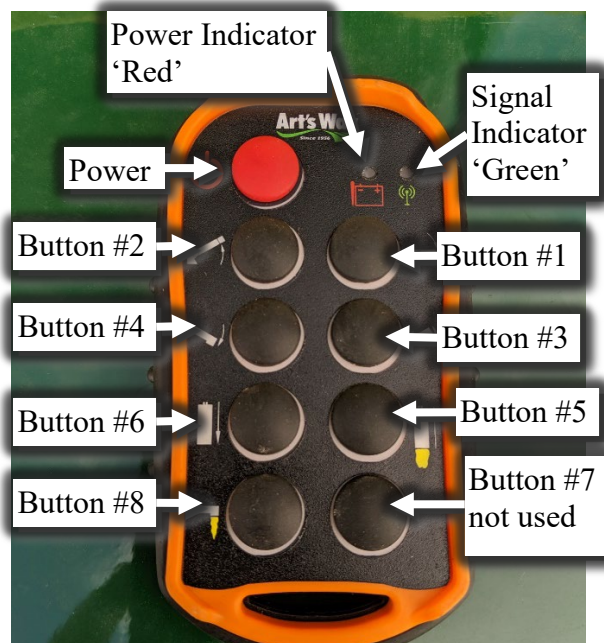
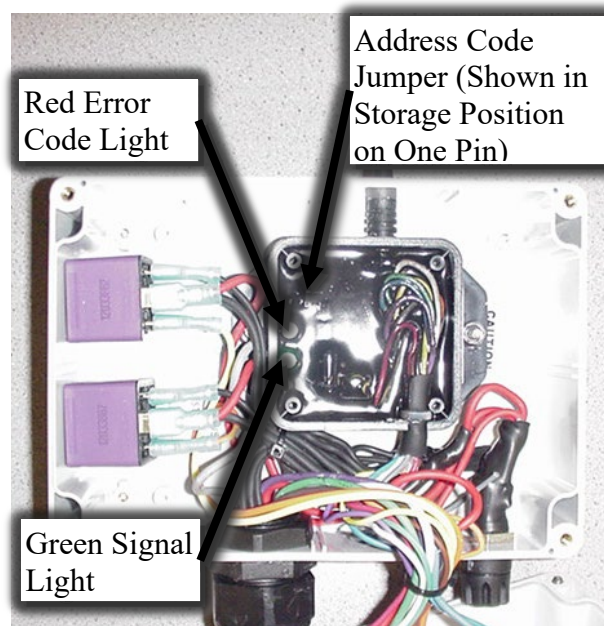

Figure 97 – Macro-Wireless Remote Control Device Button Programming (for Functions see Figure 100).
Figure 98 – Receiver in Complete Control Box with Covers Removed.
NOTE: *An internal rechargeable lithium ion battery supplies power for the Macro-Remote Control (Figure 97).*
The Remote Control (see Figure 97) is shipped with all button functions in momentary mode and already synchronized with the Receiver (see Figure 98).
To set Discharge Start/Stop button to latching mode the remote must be in configuration mode. Remove the cover from the Receiver so the LED's are clearly visible (see Figure 98).
2. Turn power on Remote Control (POWER button Figure 97).
3. Simultaneously push buttons #1, #4, & #8 (see Figure 97).
6. Push button #8 (Discharge Auger Start/Stop) (see Figure 97).
1. Remove the cover from both the Complete Control Box and the integrated Receiver (see Figure 98).
3. Place the jumper across the both address code pins inside the Receiver (see Figure 98). Both green and red lights will toggle inside the Receiver.
5. On the Remote Control press and hold the POWER button, button #1, & button #8 (see Figure 97). At this point, both lights will blink on the Remote Control transmitter.
1. With the Remote Control power off press and hold buttons #3, #4, and #8 and then POWER (see Figure 97).